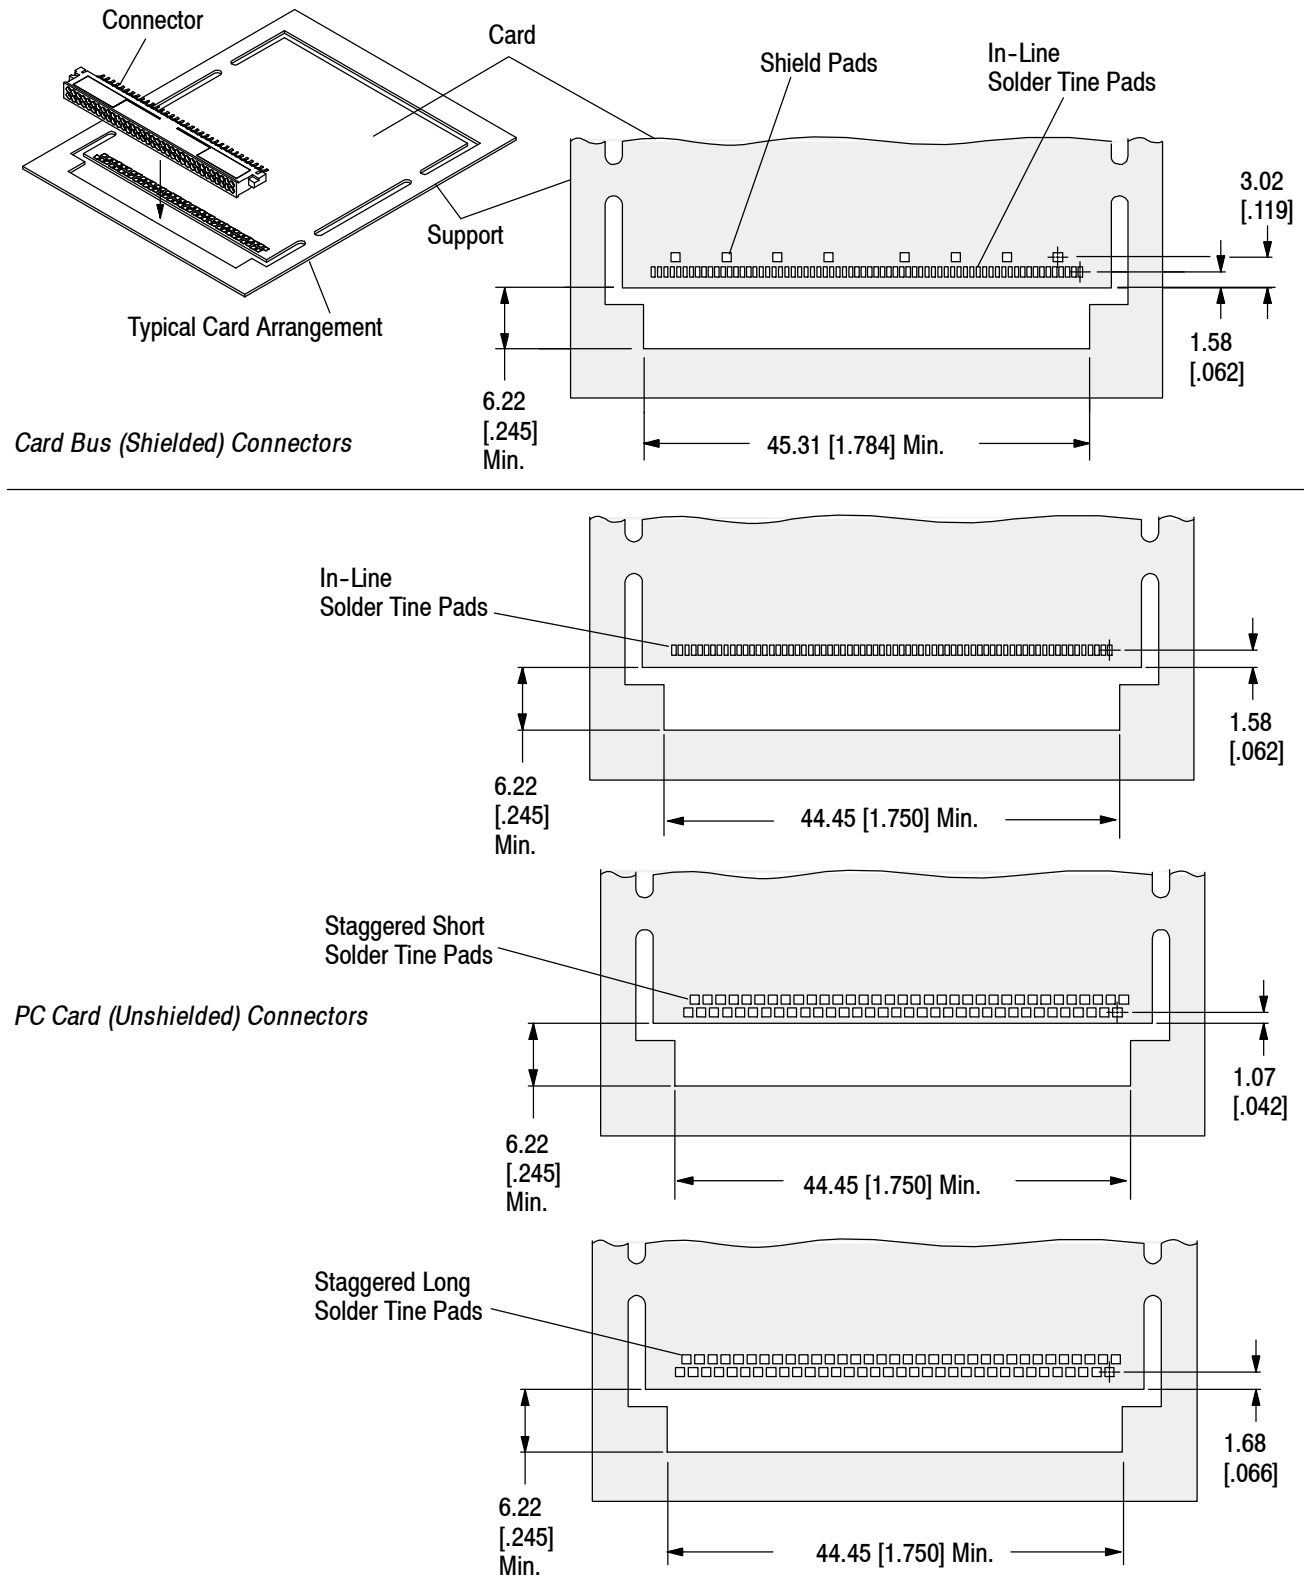

Figure 5
*The bottom surface of the alignment ears on the surface mount connectors is a design feature to be used to support the connector during soldering, as indicated in Figure 5. Multi-out panel arrangements may be used with this procedure.*
**CAUTION** The surface mount connectors must be supported during the soldering process to ensure the solder tines remain embedded in the solder paste and in touch with the solder pads. This may be done with mechanical fixtures that you may have in your system, or by allowing extra pc board material to support the housing as indicated in Figure 5.